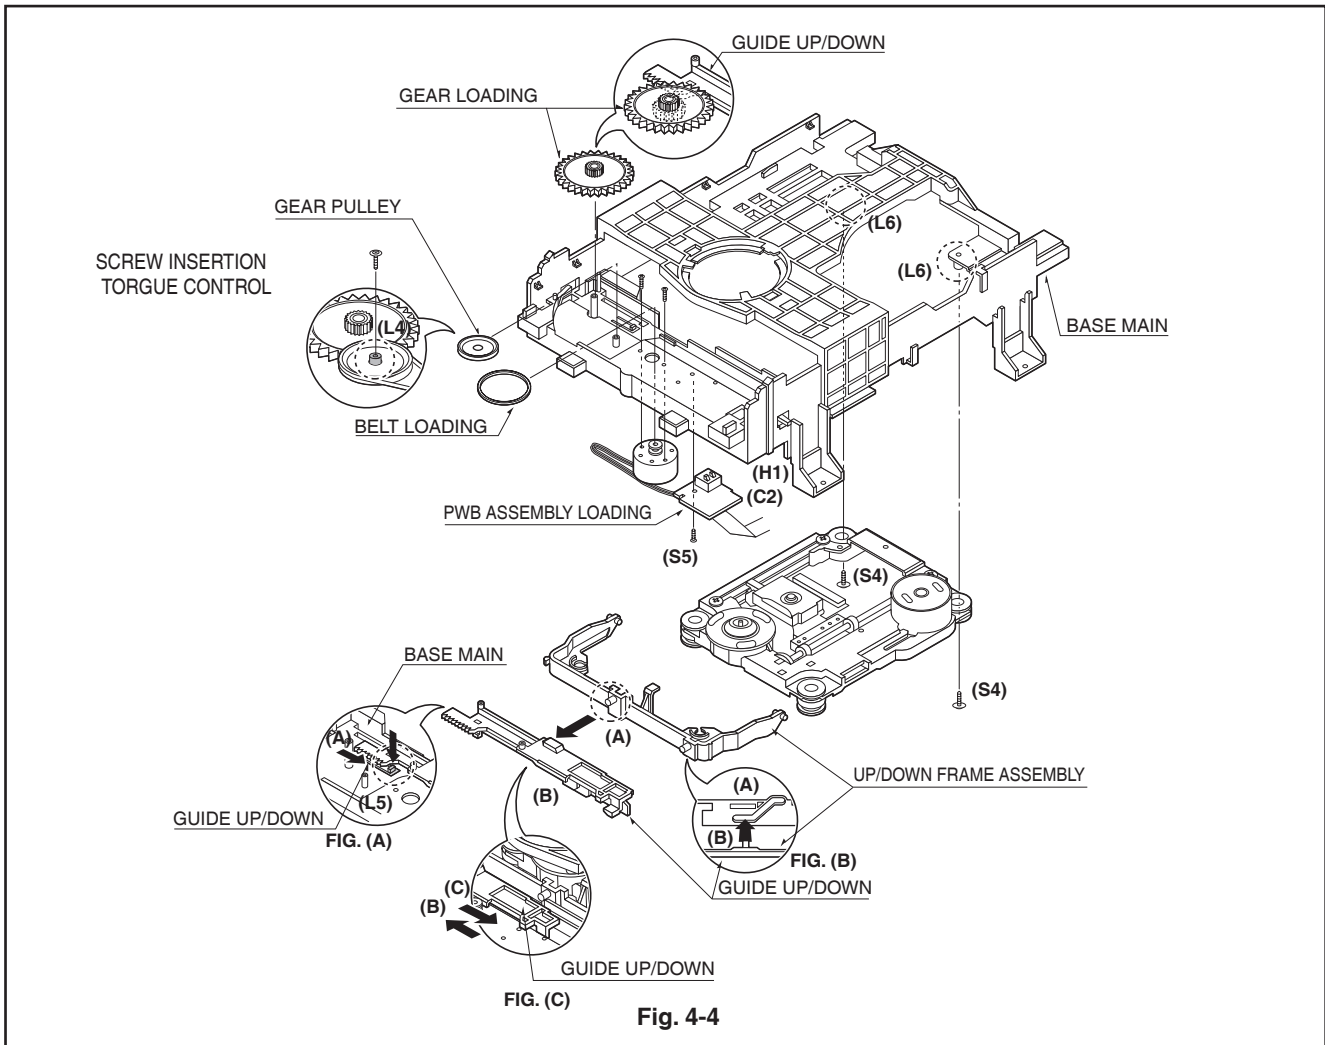

Fig. 4-4
5. Frame Assembly Up/Down (Fig. 4-4)
- When reassembling move the Guide Up/Down in direction of arrow(C) until it is positioned as Fig.(C).
- When reassembling insert (A) portion of the Frame Assembly Up/Down in the (B) portion of the Guide Up/Down as Fig.(B)
6. Belt Loading(Fig. 4-4)
7. Gear pulley (Fig. 4-4)
- 1) Unlock the Locking Tab(L4) in direction of arrow(B) and then separate the Gear Pulley from the Base Main.
8. GEAR LOADING (FIG. 4-4)
9. GUIDE UP/DOWN (FIG. 4-4)
10. PWB Assembly Loading (Fig. 4-4)
11. Base Main(Fig. 4-4)